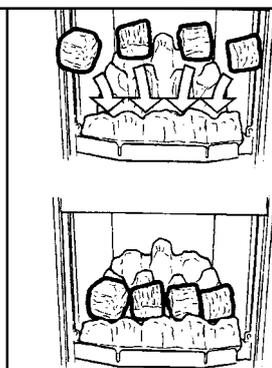

Fig. 6 Front Row of Coals
3.1 Place the 4 large coals in the valleys of the front coal (See figure 6).